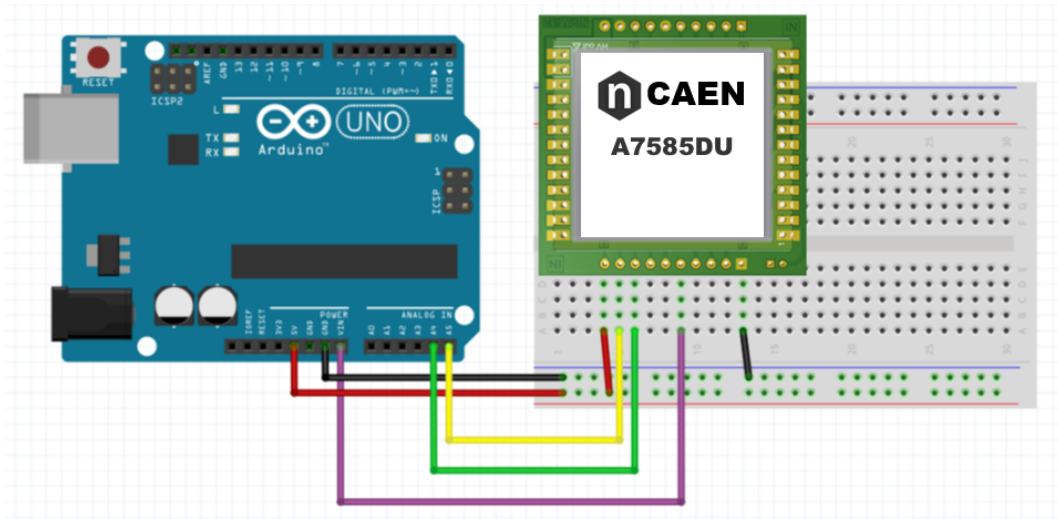

Fig. 1: Needed hardware connections between Arduino UNO and one A7585DU Power Supply plugged onto a breadboard. Refer to [1] for the A7585DU pinout.
- **SDA**: bidirectional data transmission between master and slaves (green wire in Fig.1)
- **SCL**: clock signal generated by the master (yellow wire in Fig.1)
The A7585DU must operate with a supply voltage greater than 6V. Therefore, it is not possible to connect the *Vin* pin of the A7585DU to the Arduino 5V. Indeed, an external power supply is required, for example connecting a standard 12V power supply to the Arduino UNO dedicated connector. The 12V wire (violet wire in Fig.1) connects the *VIN* pin of the Arduino to the input voltage of the A7585DU.
Moreover, the A7585DU requires an additional 5V power supply (red wire in Fig.1) in order to power the I/O buffer for the I2C interface. This buffer allows the user to interface the A7585DU on the I2C with any chip operating with a voltage between 1.8V and 5.5V.
Finally, the black wire in Fig.1 connects the Arduino UNO ground to the A7585DU ground. This is the minimal configuration to control the A7585DU module through the I2C bus.